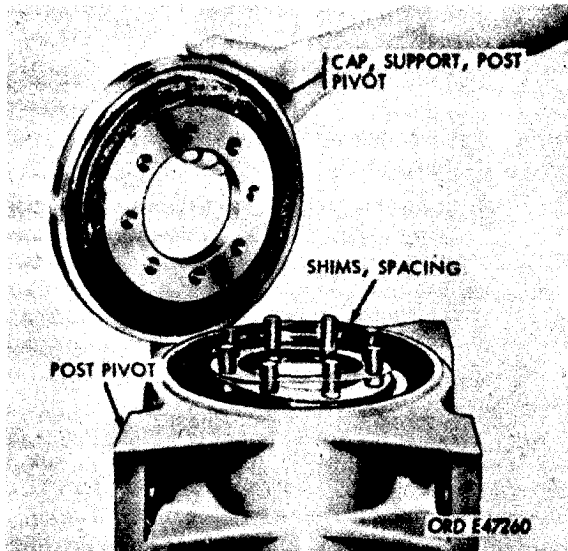

Figure 472. Removing pivot post support cap and spacing shims
- (b)** Remove two hex-nuts, external-tooth lockwashers, plain washers, and locking plates, and six safety nuts which secure pivot post support cap. Remove pivot post support cap and spacing shims (fig. 472). Keep shim pack intact for assembly.